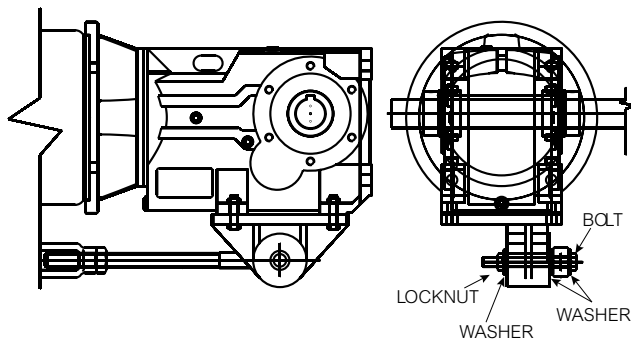

Figure 5 — Install Torque Arm Assembly
- 8.0 Install the torque arm assembly to the Ultramite mounting bracket as shown in Figure 5. Install the provided bolt, washers and lock nut, apply Loctite 242 or equivalent to threads. Tighten the bolt until seated against the mounting bracket.